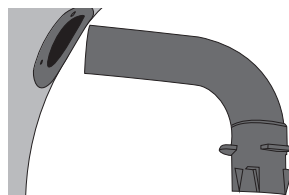

figure 5
4. Pull the bag adaptor out of the left air intake (**figure 5**).